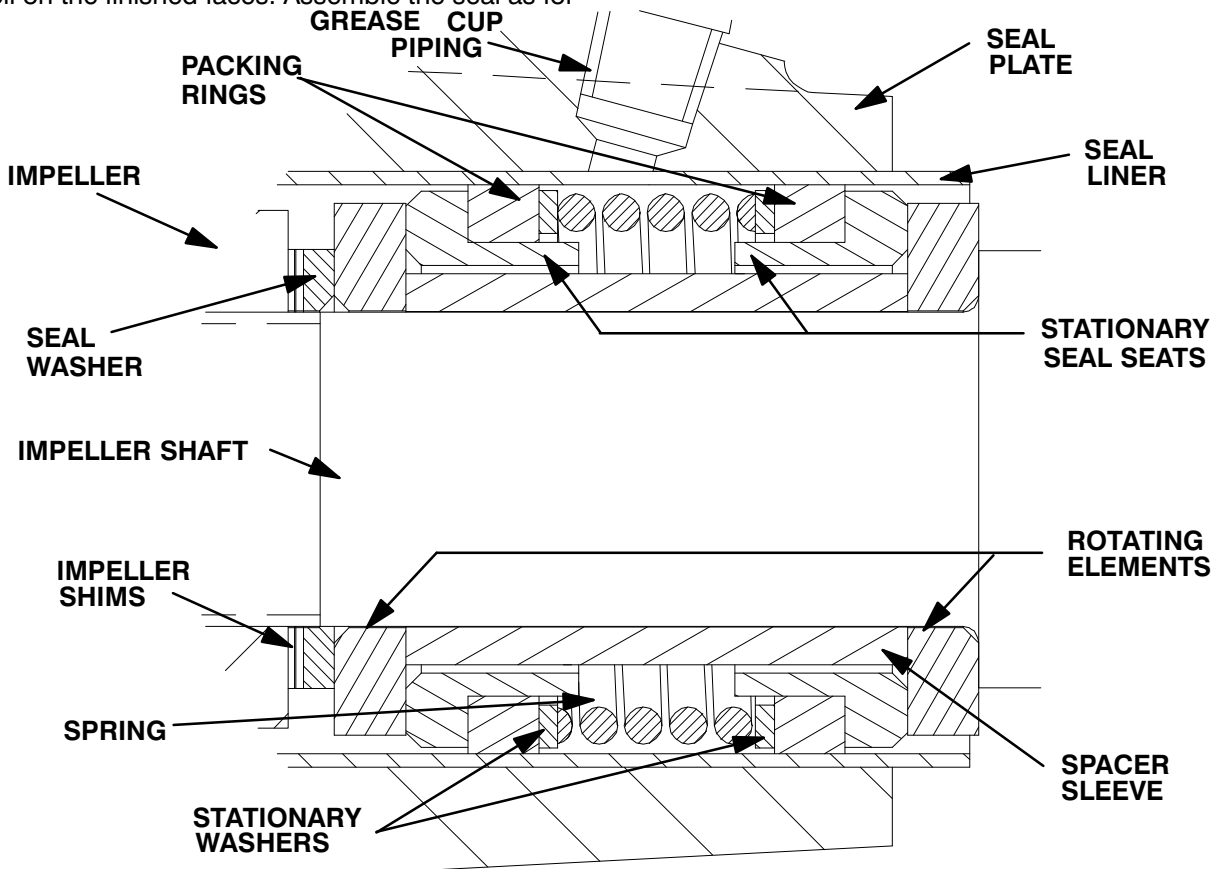

Figure 6. GS1250 Seal Assembly
Before loosening the impeller, turn the cross arm on the automatic lubricating grease cup (18) clockwise until it rests against the cover (see Figure 6 in **LUBRICATION**). This will prevent the grease in the cup from escaping when the impeller is removed.
amount of oil, and apply a drop of light lubricating oil on the finished faces. Assemble the seal as follows, (see Figure 6).
Assemble the seal as follows, (see Figure 6).